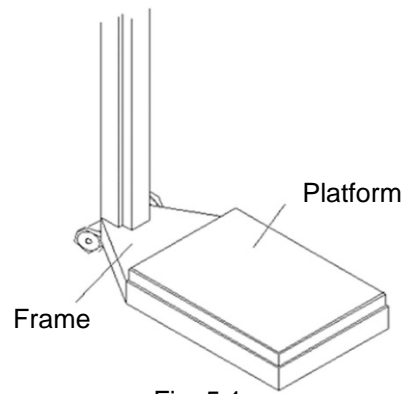

Fig. 5.1
1. Turn the wheels so that the holes are facing the rear of the scale, place the screws in the holes. (Fig.5-1)